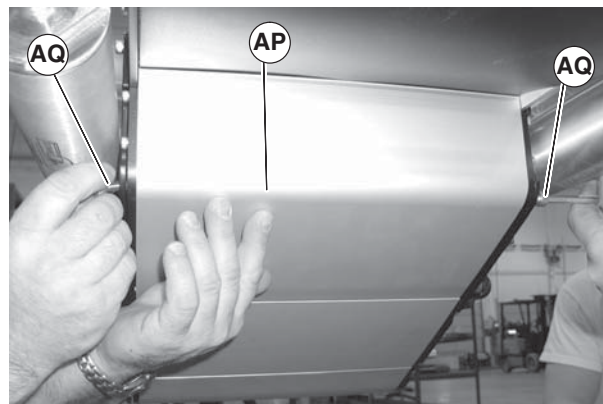

Figure 70
2. Temporarily support idler guard assembly (Figure 70, item AP). Remove screws (AQ).